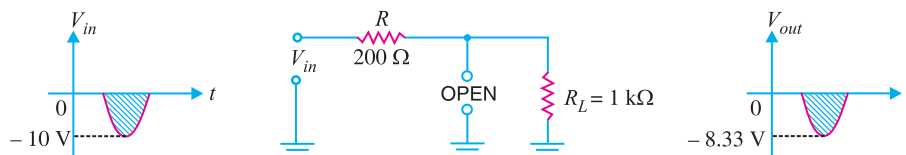

Fig. 18.33
**Negative half-cycle.** During the negative half-cycle of the input a.c. signal, the diode is reverse biased and it conducts no current. Therefore, the diode will behave as an open as shown in Fig. 18.33.